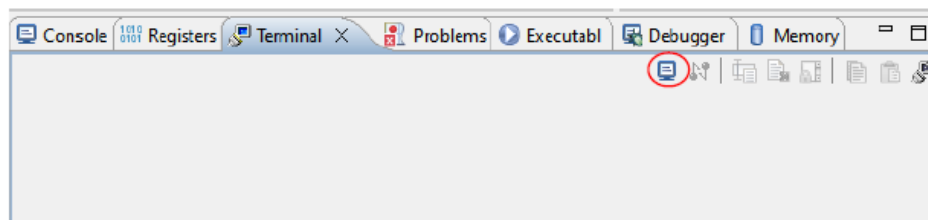

Figure 3.9. Open a Terminal
- g. Click the Open a Terminal icon as shown in Figure 3.9.